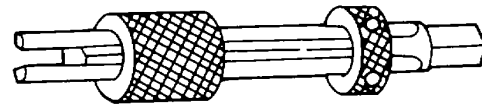

Figure 4-109. Tap Extractor
(2) *Tap extractors.* Tap extractors, shown in figure 4-109, are sized to remove taps with an outside diameter of 3/16 inch to 2 1/8 inches.